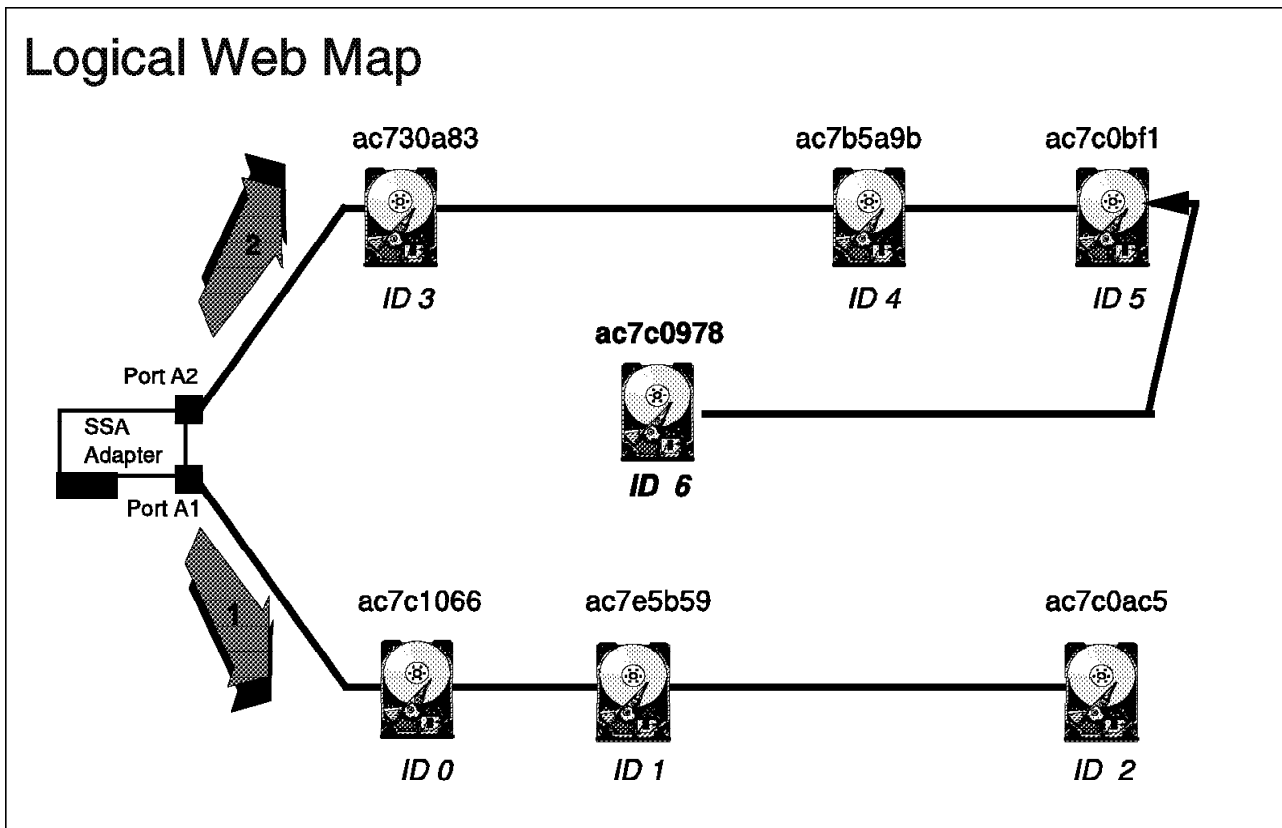

Figure 117. IBM SSA Interface Controller in a string topology.
2. Cable the new drives to the end of the string. We have added the drive with UID ac7c0978 (see the spare drive in Figure 117)